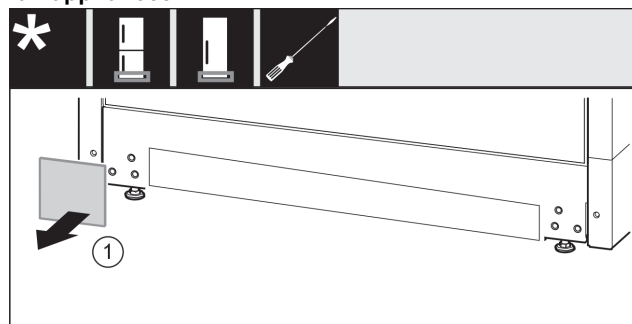

Fig. 35
- ▶ Remove the cover. Fig. 35 (1)